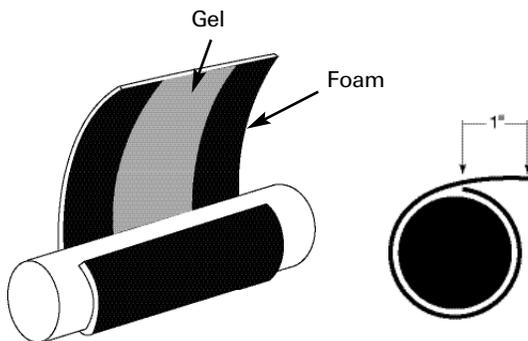
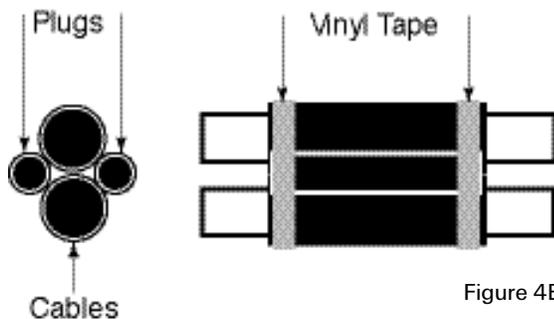

Figure 4A
Figure 4B
4. Wrap the gel end seal strips around each cable 1" beyond the splice wrap collar. (Figure 3) Use 1 complete wrap plus an additional 1" overlap. (Figure 4A) Vinyl tape may be used to hold in place. Tape only on outer edges as shown in Figure 4B.
5. For branch ends, gel plugs are required in addition to gel seal applied in step 4. Use the smallest diameter cable to determine cut length of gel strip to use. The length of gel is equal to the cable circumference plus 1". (Figure 4A)
Roll gel strip as small as possible and position as shown. Use vinyl tape to hold in place. (Figure 4B) If you have 2 branch cables position the cables in a triangle. Use the smallest diameter cable of adjacent cables to determine length of gel strip.